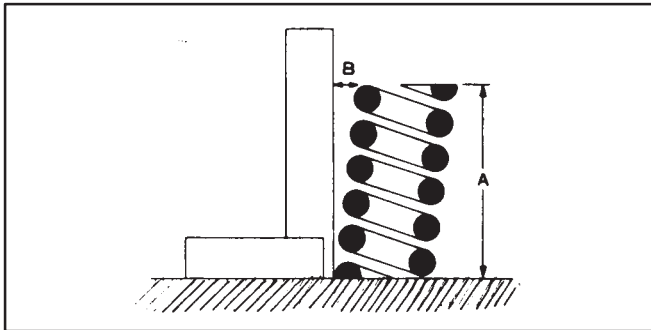

FIGURE 9-11. MEASURING VALVE SPRING HEIGHT AND SQUARENESS
Valve Springs: See Figure 9-11. Check spring free-height, squareness, end wear and open-valve spring tension. Check the valve spring retainers for wear also if the spring ends are worn. Check spring height (A) by placing the spring on a flat surface next to a square. Check squareness by rotating the spring against the square. The spring is not considered square if (B) exceeds 1.5 mm (0.06 inch). Check open-valve spring tension using an accurate valve spring tester. Replace a valve spring that is weak, broken, worn or not square.